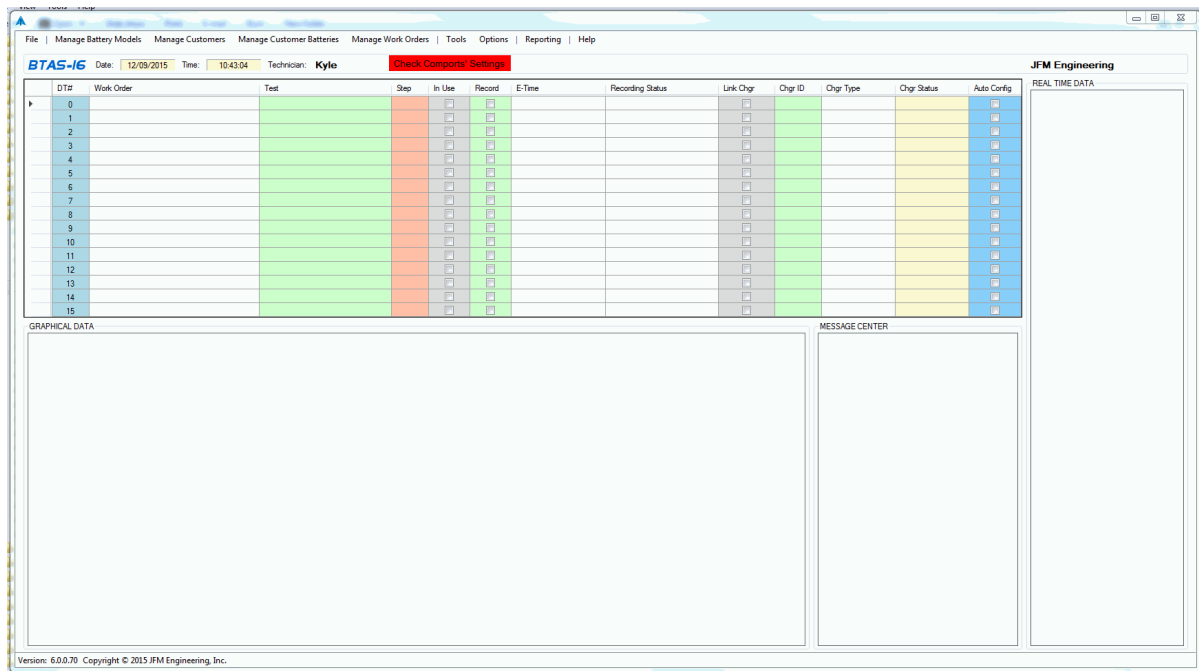

Figure 2 - Main Screen
1.4.4. There are four sections in the Main Screen – [See Figure 2]: